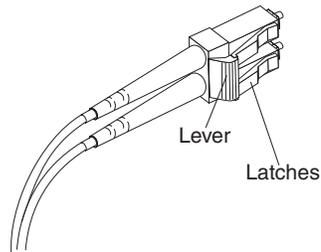

Figure 15. LC-LS Fibre Channel Cable lever and latches
1. On the end of the cable that connects into the LC connector end of the LC-SC cable adapter, press down and hold the lever to release the latches. Figure 15 shows the location of the lever and latches.